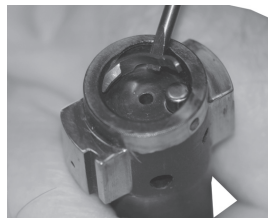

Figure 3
- 3) Insert a small screwdriver or tip of a knife behind the extractor and pry it inward and up out of the bolt. *See figure 3.*